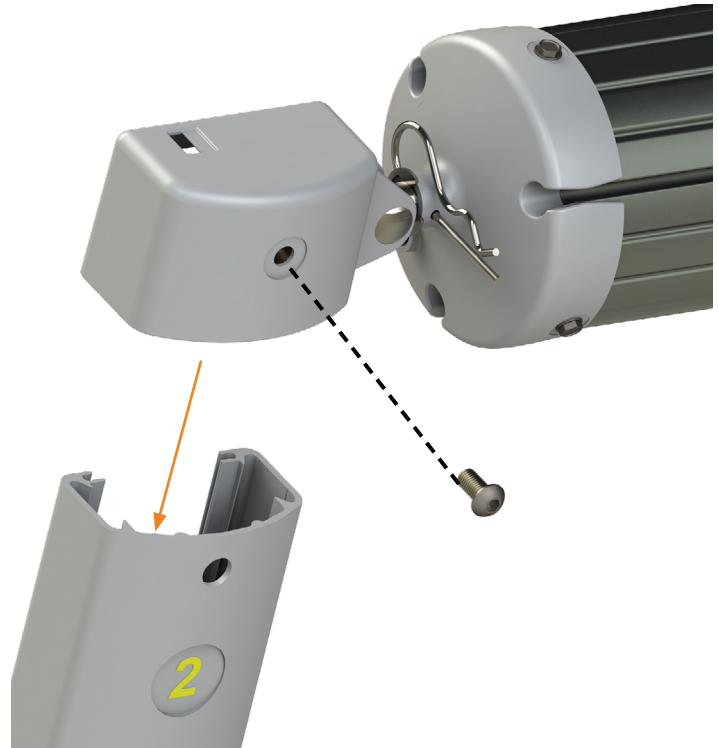

Fig.3
2. Slide the left support arm assembly into the idler head assembly of the roll tube. Align the holes and secure using one (1) 1/4"-20 x 1/2" Phillips head drive screw (**Fig.3**).